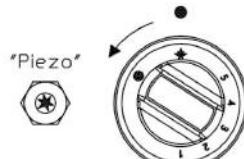
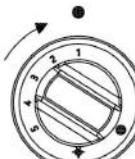

Fig. 7
Fig. 10
- Press the respective knob against the stove and then make it turn to the left until the "PILOT" position sign. (Fig. 7)
- To turn off the oven burner, turn the knob clockwise (figure 10) to position "5" without forcing it excessively. Fully depress the knob and turn it to the "PILOT" position. (Fig. 7)